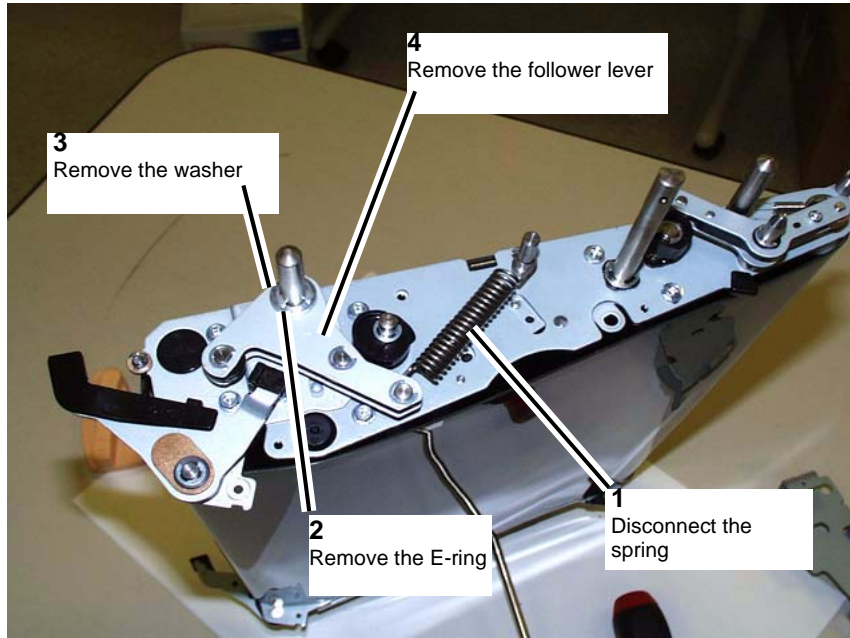

Figure 7 Removing the follower lever
11. Remove the follower lever. (Figure 7)